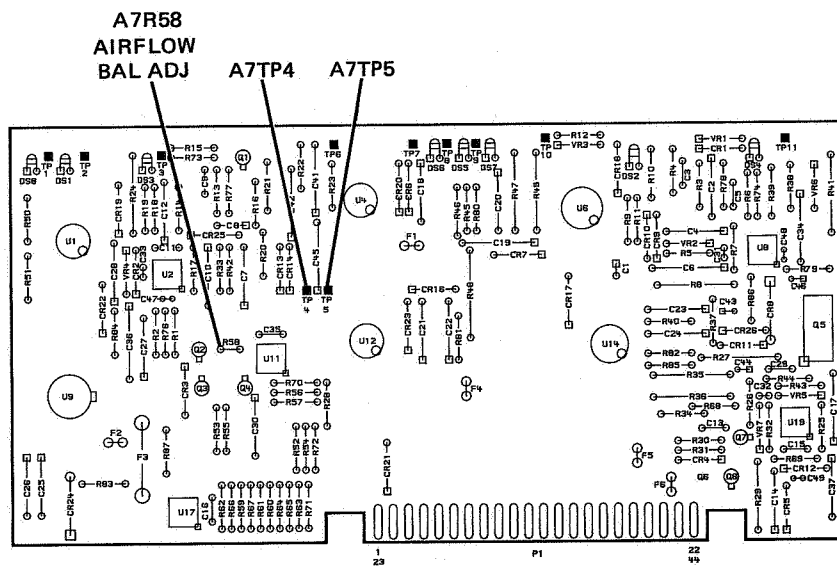

Figure 5-3. Location of AIRFLOW BALance Adjustment.
4. Short A7TP4 and A7TP5 together. This removes the hysteresis from comparator A7U11. Refer to Figure 5-3 for the location of A7TP4 and A7TP5.
7. Adjust A7R58 AIRFLOW BAL until the LED display oscillates between 1000 00 and 1000 02. Refer to Figure 5-3 for A7R58 adjustment location.